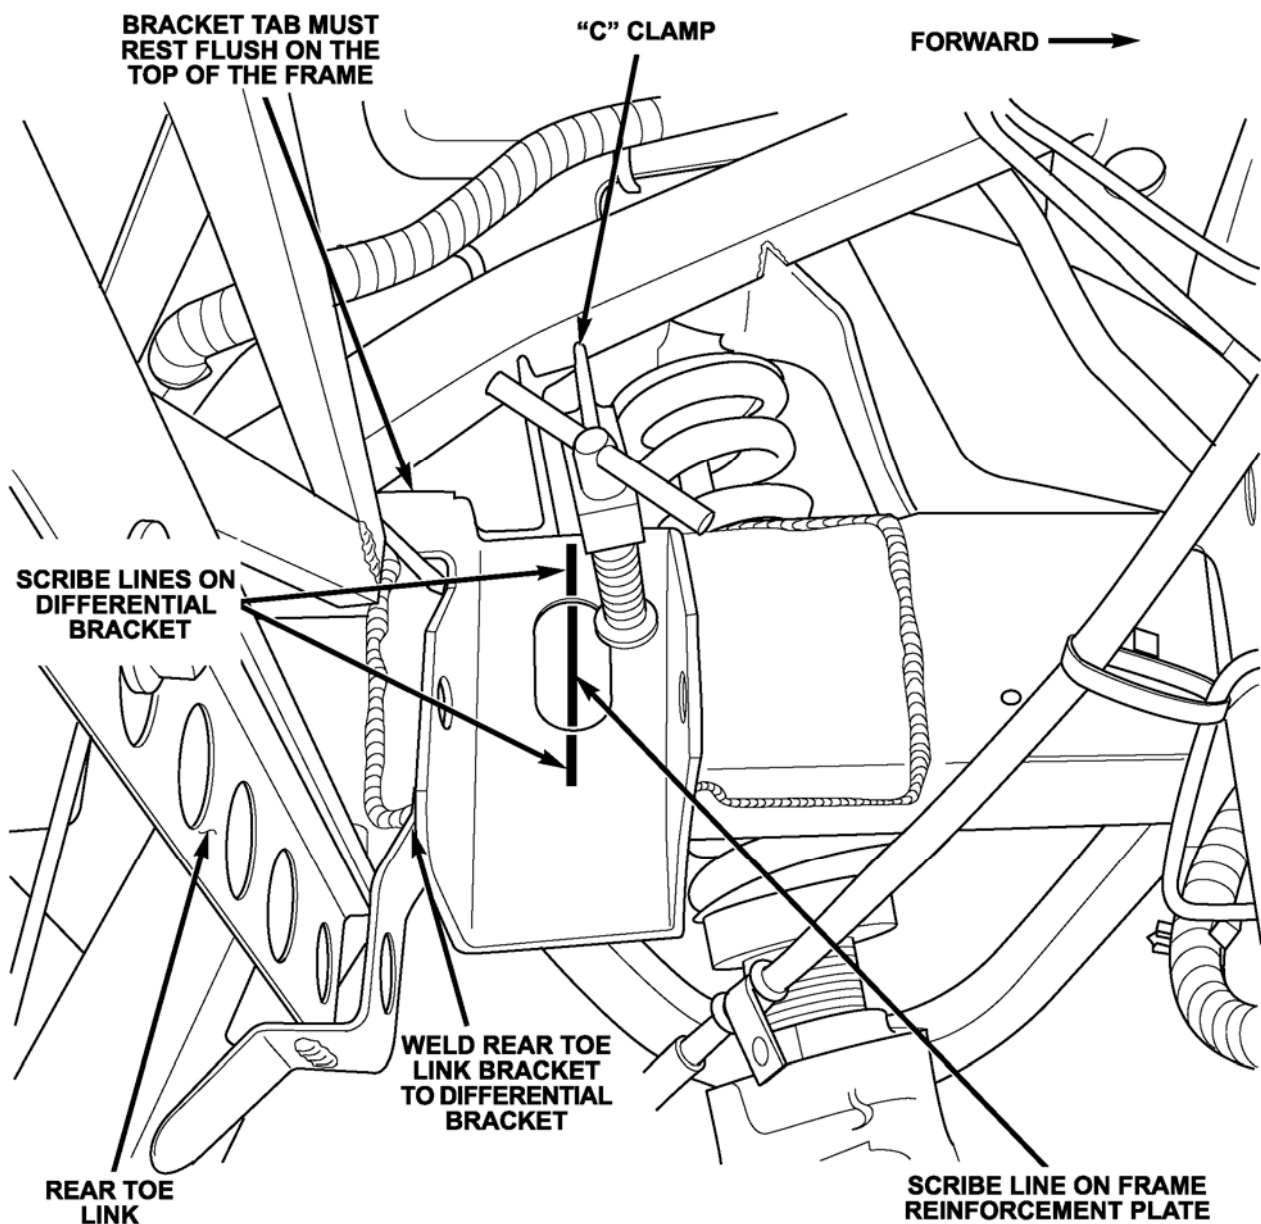

Figure 29
13. Position the new differential bracket on the frame rail. Align the scribe line made on the reinforcement plate with the line made on the differential frame bracket to obtain the correct right-to-left location (Figure 29). The top tab of the differential frame bracket must be tight against the top of the frame rail. Clamp the bracket into position.
14. Tack weld the differential bracket into position (Figure 29). Recheck the bracket location and adjust if necessary.
18. Straighten (if necessary) the toe link bracket and weld it to the side of the differential bracket (Figure 29). If the toe link is severely damaged continue with Section “J. – Replace Rear Toe Link Bracket.”